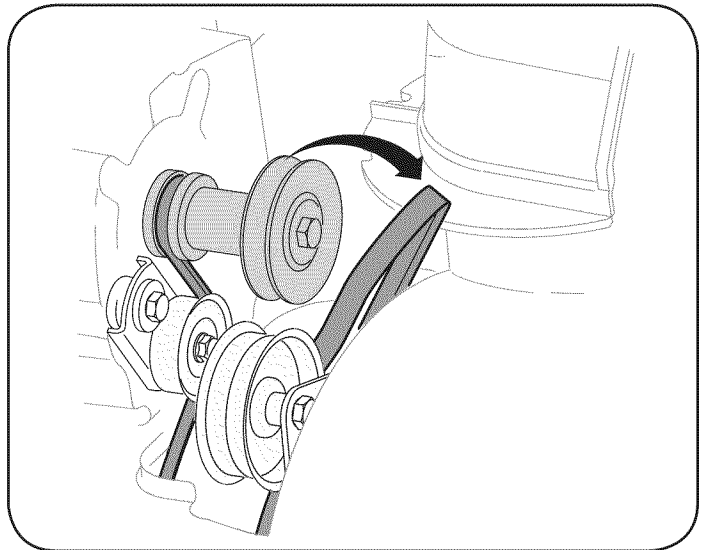

Figure 27
4. Roll the auger belt off the engine pulley. See Figure 27.